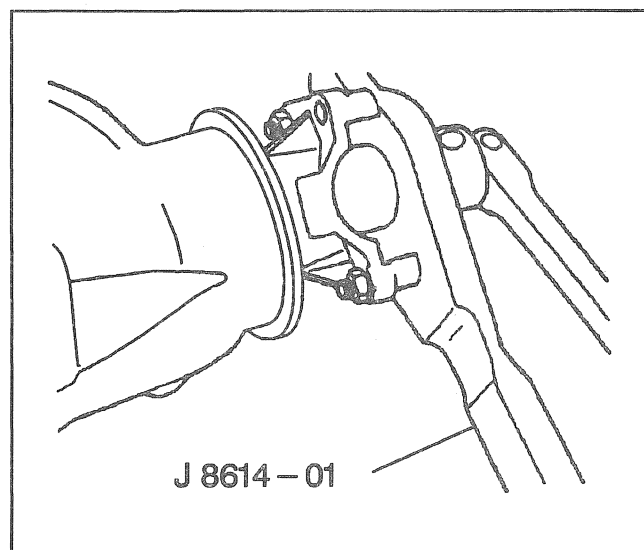

Figure 6—Removing the Drive Pinion Nut
18. Pinion flange nut (6) and washer (7) using J 8614-01 to hold the pinion flange (Figure 6).